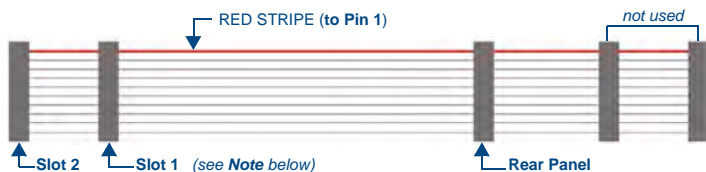

FIG. 11 Tuner Ribbon Cable
4. Place the Rear Panel connector at the end of the ribbon cable (FIG. 11) on the Interface Board pin-bus, keeping the red stripe at the top.
Note: While it is recommended that you use the Slot 2 connector on the ribbon cable to connect the Tuner installed in Slot 2 (in this case, the DAS-AMFM Tuner), the ribbon cable itself does not determine which Tuner is Tuner 1 and Tuner 2. This determination is set by the jumper settings on each Tuner Module (see "Dual Tuner Installation Instructions" above). Therefore, it is not required that the connections indicated in FIG. 11 are followed exactly, as long as the Tuner Jumper Settings are set correctly for each Tuner Module installed.